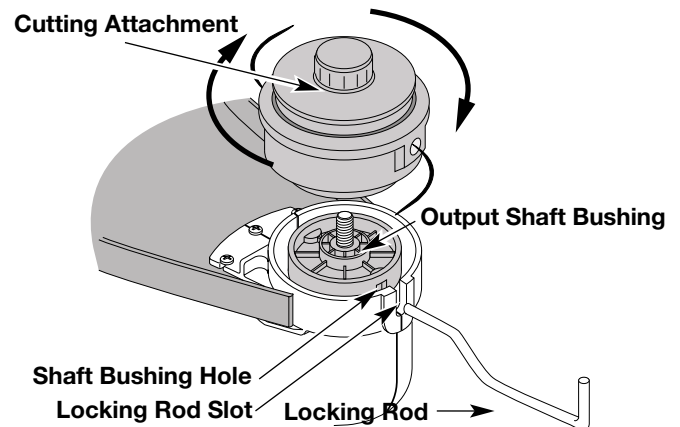

Fig. 13
- Align the shaft bushing hole with the locking rod slot and insert the locking rod into the shaft bushing hole. (Fig. 13).